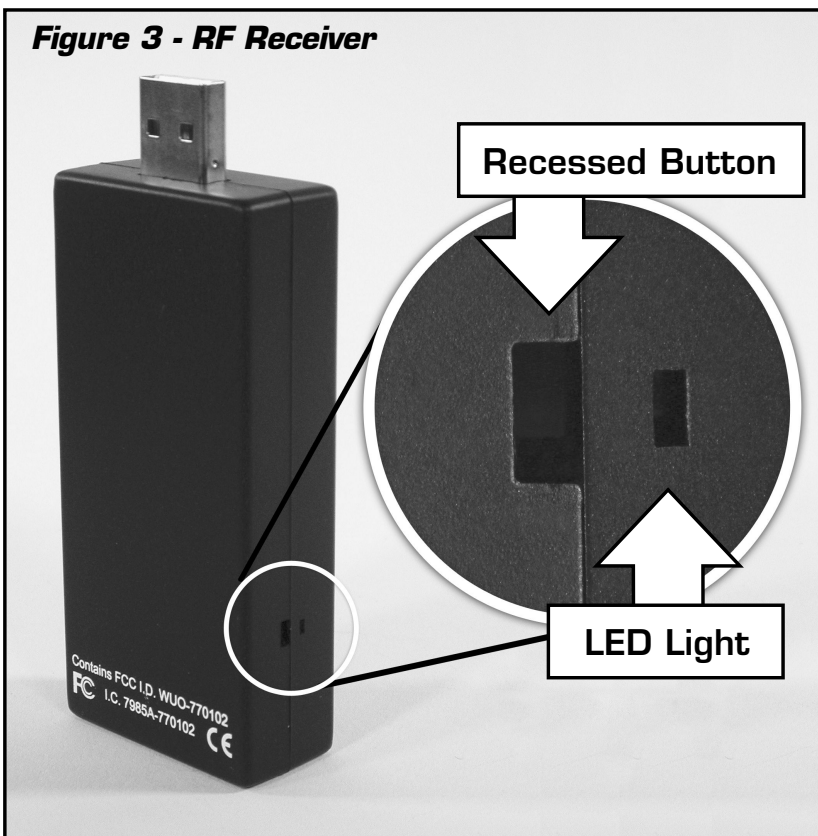

Figure 4 - RF Transmitter
- b) Press once the recessed button located on the bottom of the RF Transmitter **(See Figure 4 - pg 10)**. The LED will start flashing quickly. If connection has been successfully established the LED on both RF Receiver and RF Transmitter will stop blinking. If the RF units do not connect within 10 seconds, the RF Transmitter LED will start blinking slowly and the RF Receiver will continue to blink quickly. To retry the connection process, press the button of the RF Transmitter.